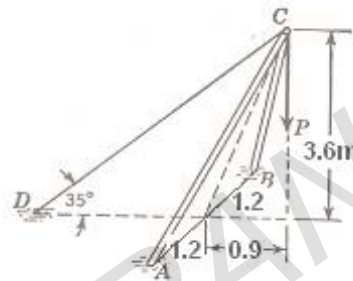

Figure 6
1. Calculate the tension (T) in the guy wire CD and the compression (S) in each strut of the shear leg shown in figure 6. if the vertical load P = 100 kN. [16]